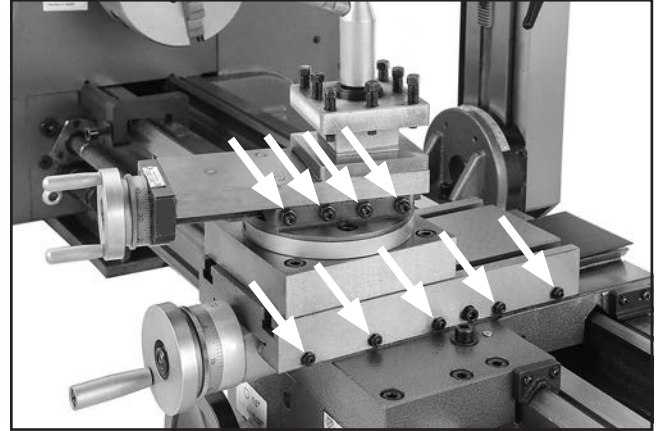

Figure 123. Gib adjustment hex nuts and cap screws.
2. Loosen hex nuts on side of cross slide or compound slide (see **Figures 123**).